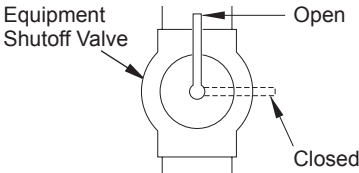

Figure 16 - Equipment Shutoff Valve
1. Close equipment shutoff valve (see Figure 16, page 17).
1. Open equipment shutoff valve (see Figure 16).